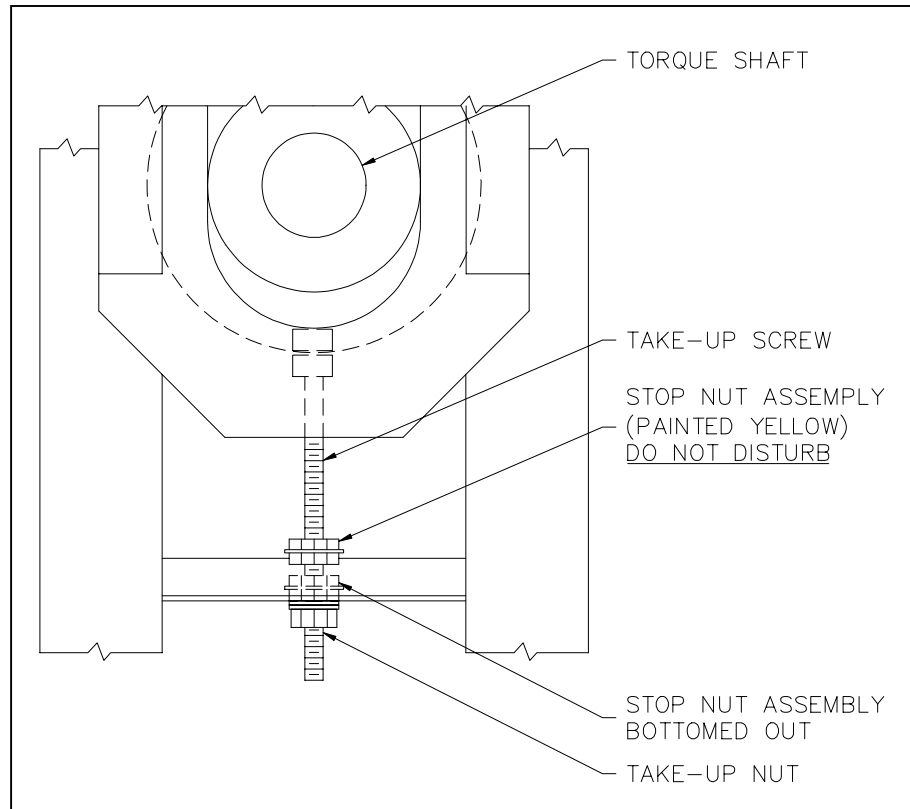

Figure 22. LOAD CHAIN ADJUSTMENT
1. Turn each take-up nut until the stop nut assembly bottoms out (see Figure 22).